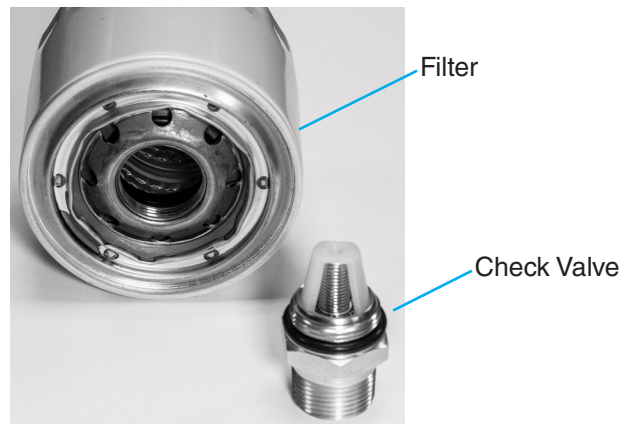

Figure 5-5-28 Breather Assembly
5. Remove the check valves. Discard the old filters in accordance with local regulations. See Figure 5-5-28.